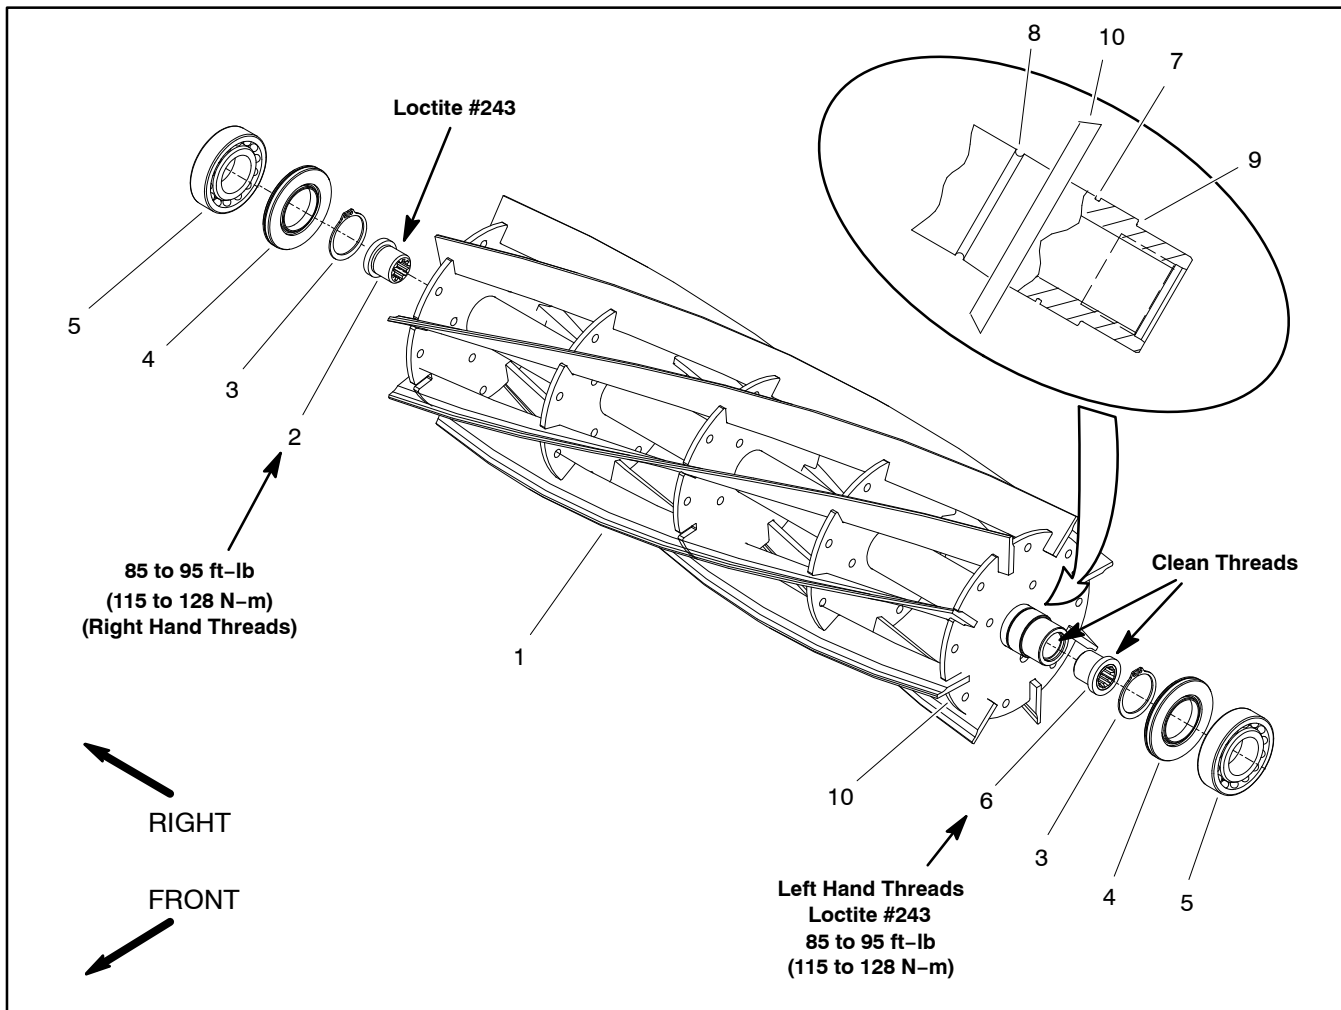

Figure 35
### Inspection of Cutting Reel (Fig. 35)
A. The threaded inserts are installed with thread locking compound (Loctite #243 or equivalent). One insert has LH threads and the other RH threads. The insert with LH threads has an identification groove on the flange face. A groove on the reel shaft identifies the reel end that has LH threads (see illustration in Fig. 35).
### **Assembly of Cutting Reel (Fig. 35)**